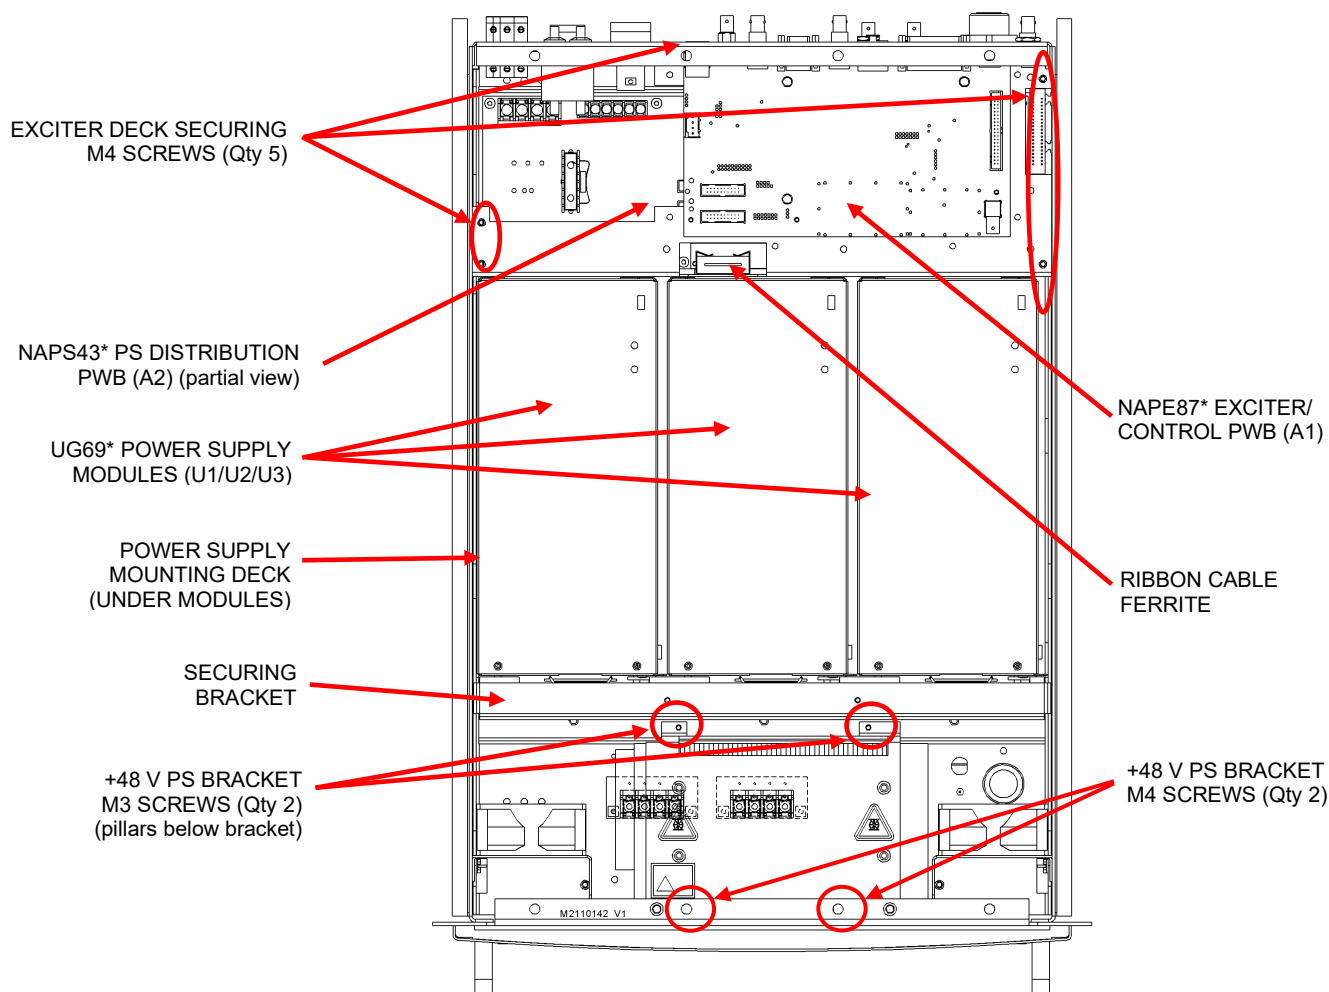
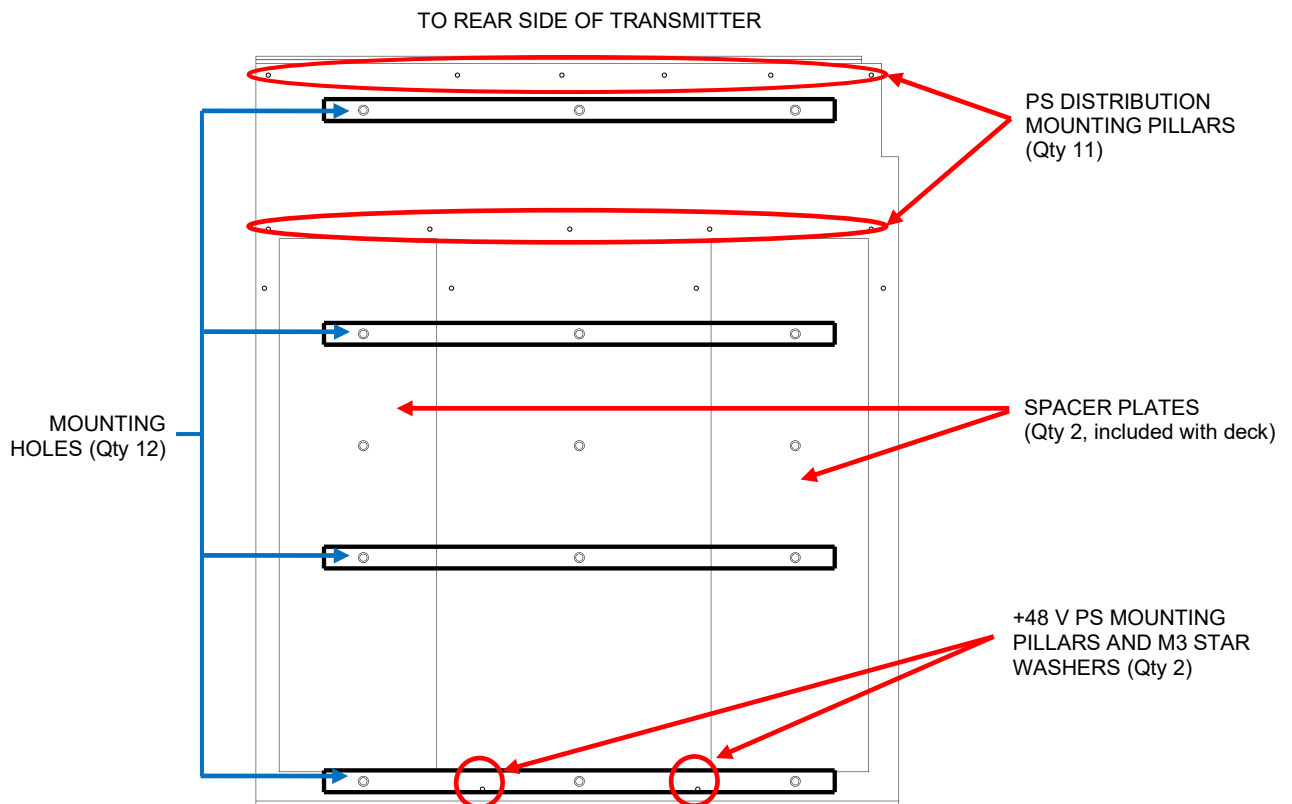

Figure 1: VS2.5 Top View with NAPS43 and UG69s
Figure 3: New Power Supply Mounting Deck
Refer to Figure 1 and Mechanical Drawings MD-1 and MD-4 in Section 6 of the VS2.5's Troubleshooting Manual for reference.
- (b) Remove the securing bracket from the front of the Power Supply Modules (U1 to U3) by removing the two (2) M3 screws in the top of the bracket (see Figure 1) and the two (2) M4 countersunk screws in each side of the transmitter chassis. Discard bracket and retain hardware.
- (f) Remove and retain the five M4 screws that secure the Exciter Deck (see Figure 1).
- (g) Before removing the Exciter Deck, ensure that the exciter wiring and associated items are clear of the Power Supply Distribution PWB and Exciter Deck, cutting tyrap if necessary. Cut the tyrap around the Ribbon Cable Ferrite (see Figure 1) to move the ribbon cables clear of the Exciter Deck and be careful in the following step not to damage the ferrite. Cut the adhesive tape that secures the Ribbon Cable Ferrite bracket to the Exciter Deck. Retain the adhesive tape for re-installation.
- (e) Remove the 12 M3 countersunk screws that secure the Power Supply Mounting Deck to the transmitter chassis (see Figure 1 to locate the Power Supply Mounting Deck and see Figure 3 for securing hardware location). Retain hardware for re-installation.
- (f) See Figure 1. Remove and retain the two M3 screws securing the +48 V Power Supply Mounting Bracket to the Power Supply Mounting Deck. Remove and retain the two countersunk M4 screws securing the +48 V Power Mounting Bracket, from just above the front panel, and carefully reposition the +48V PS Mounting Bracket to allow access to the two (2) pillars under the M3 screws. Take care to ensure the +48 V Power Supply's wiring is not damaged.
- (g) Use a 6-mm nut driver to remove the two (2) pillars accessed in step (f). Retain pillars for re-installation. Remove and discard the M3 star washers under the pillars.
- (b) Install 11 of the 12 pillars and washers retained in step 2.2 (h) in the PS Distribution Mounting Pillars positions shown in Figure 3. Install the chafe rail on the rear side edge.
- (c) While ensuring that all wires removed in step 2.2 (c) are clear of the deck area, install the Power Supply Mounting Deck to the transmitter chassis using the 12 M3 countersunk screws retained in step 2.2 (e). See Figure 3 for mounting locations for both scenarios.
- (h) Use a 6-mm nut driver to re-install the pillars retained in step 2.2 (g) on the Power Supply Mounting Deck, on top of new M3 star washers (Nautel Part # HMW10) from the Hardware Kit. See Figure 3 for +48 V Power Supply mounting pillar locations.
- (a) While ensuring that exciter wiring, ribbon cable ferrite, and associated items are clear, re-install the exciter deck retained in step 2.1 (h) in the transmitter, by pushing it backward and down. Use five screws retained in 2.1 (f) to secure the exciter deck to the transmitter chassis (see Figure 1). Re-insert tyrap anchors in their original locations, noting there are additional tyrap anchors (Nautel Part # HAC61) in the Field Modification Kit.
- (c) Re-install the Exciter/Control PWB (A1, Nautel Part # NAPE87*), following the steps outlined in Section 1 of the VS2.5 Troubleshooting Manual. See Figure 1 for location and orientation. If an Orban Inside card is installed on the Exciter/Control PWB, it can remain secured to the Exciter/Control PWB during installation.
- (b) Install the new Power Supply Modules in the U1 and U3 positions of the transmitter (the middle position, U2, is no longer used) and slide them toward the rear of the transmitter to engage them with their mating connectors. The Power Supply Modules should be resting on their respective Spacer Plates (see Figure 3) when correctly positioned.